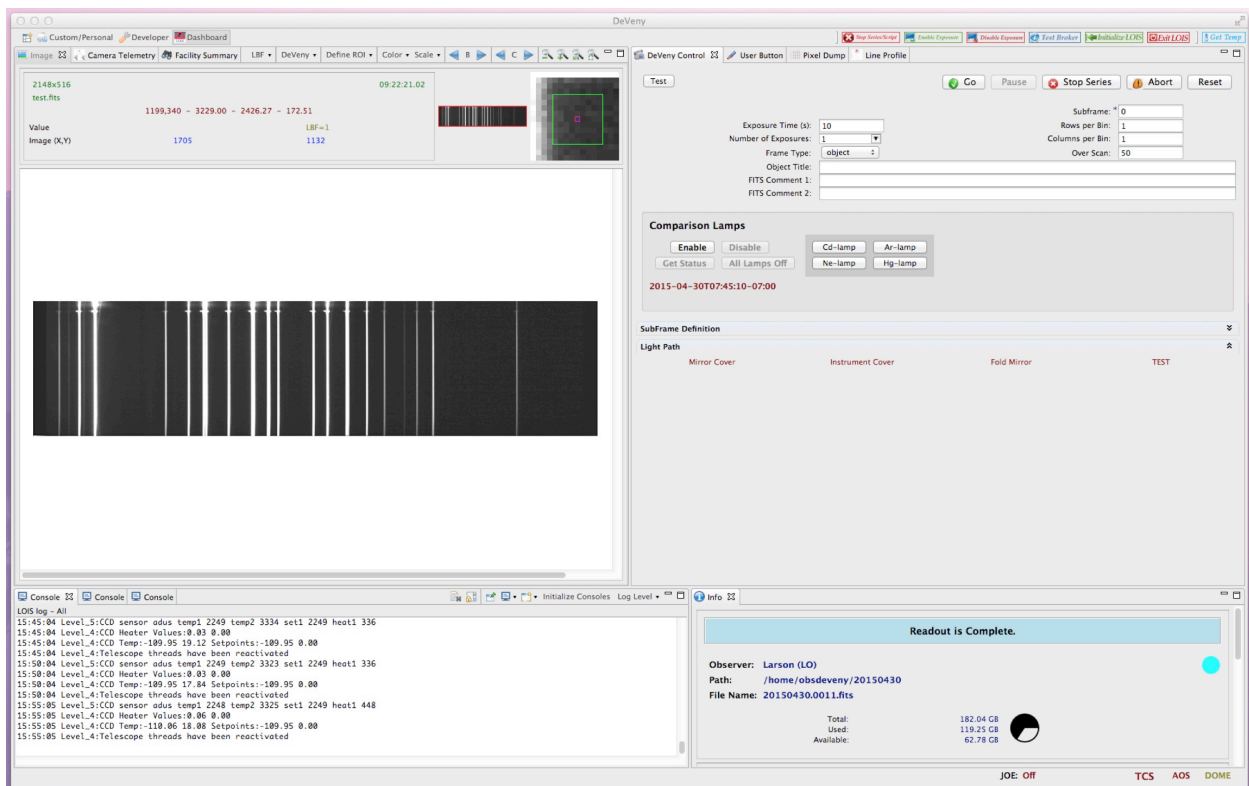

Figure 3. DeVenY LOUI. The displayed and stored images are oriented with red to the left, and blue to the right.
- iii. On *baggins*, if there is a DeVeny LOUI in the dock, open it, and then exit the application from the top-level pull-down menu. Then, double click on the DeVeny LOUI in the upper right corner of the left hand screen to start a new copy. The DeVeny LOUI is shown in Figure 3. If both lois and temperature logging are running, click 'Stop Series' to halt the logging.